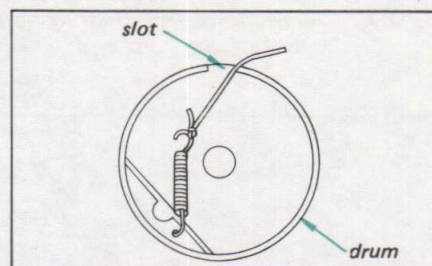

Fig. 2-5. Coil spring installation
1. Hook the spring to one hole of the drum as shown in Fig. 2-5.